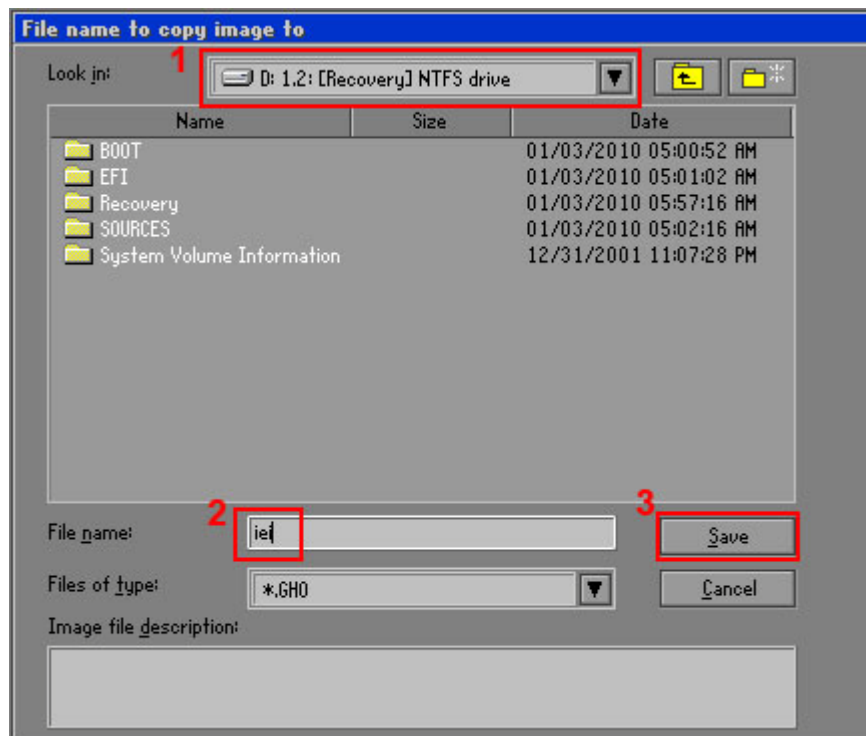

Figure B-16: File Name to Copy Image to
Step 7: Select **1.2: [Recovery] NTFS drive** and enter a file name called **iei** (**Figure B-16**). Click **Save**. The factory default image will then be saved in the selected recovery drive and named IEI.GHO.